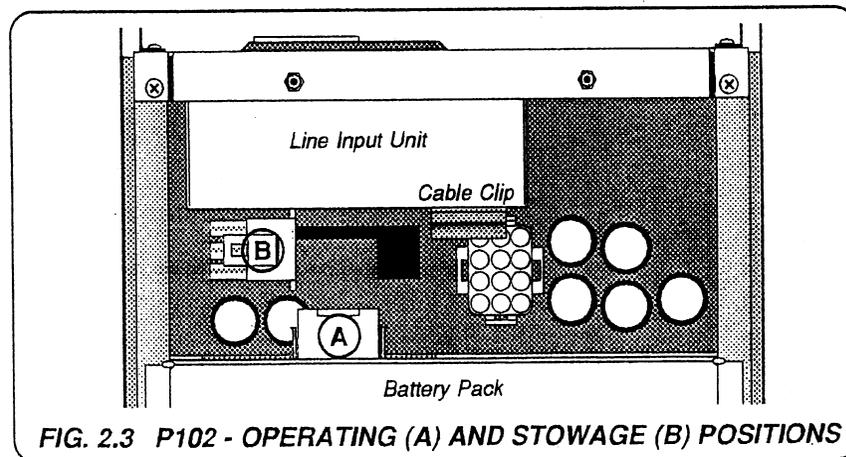

FIG. 2.3 P102 - OPERATING (A) AND STOWAGE (B) POSITIONS
3. Detach the battery connecting plug (P102) from its retaining clip on the outside of the *Line Input Unit* (position 'B' in Fig. 2.3) and insert it into its socket (J102) on the rear of the *Battery Pack* (position 'A' in Fig. 2.3).